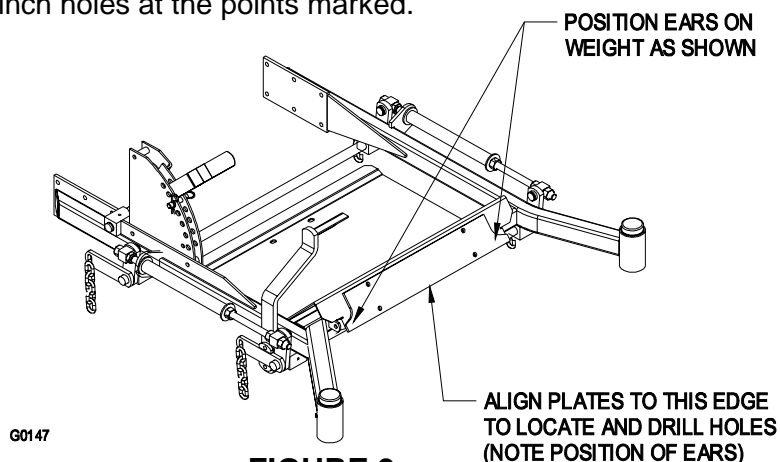

FIGURE 9
- 3.5.2 Locate the position of the mounting holes. Clamp a weight plate to the front of the floor pan (See Figure 9). The ears on the weight plate should be towards the bottom (upside down from the actual mounted position). Align the bottom edge of the weight plate with the bottom edge of the floor pan front panel. Center the weight plate side to side. Mark the position of all four holes using a center punch.